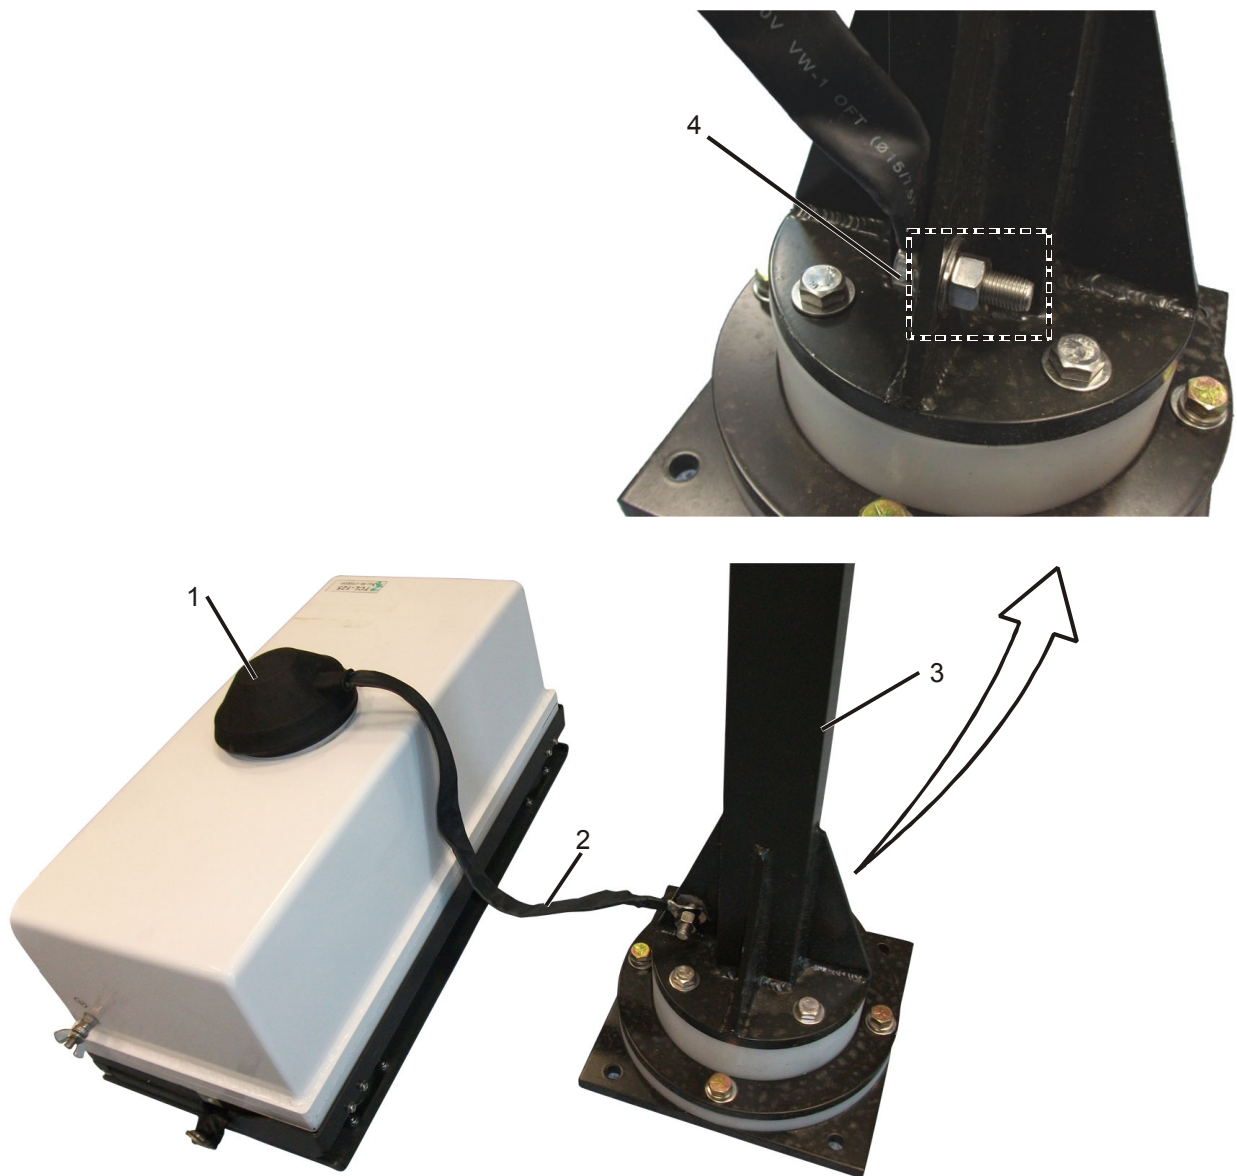

Figure 2-28. Strip to Antenna Connection
(See Figure 2-27 to Figure 2-28)
- b. Cover the antenna connector using the cover (1) (See Figure 2-28).
- c. Connect the other side of the strip (2) to the antenna (above the isolator) (3) using spring washer, flat washer and nut (4) (see Figure 2-28).